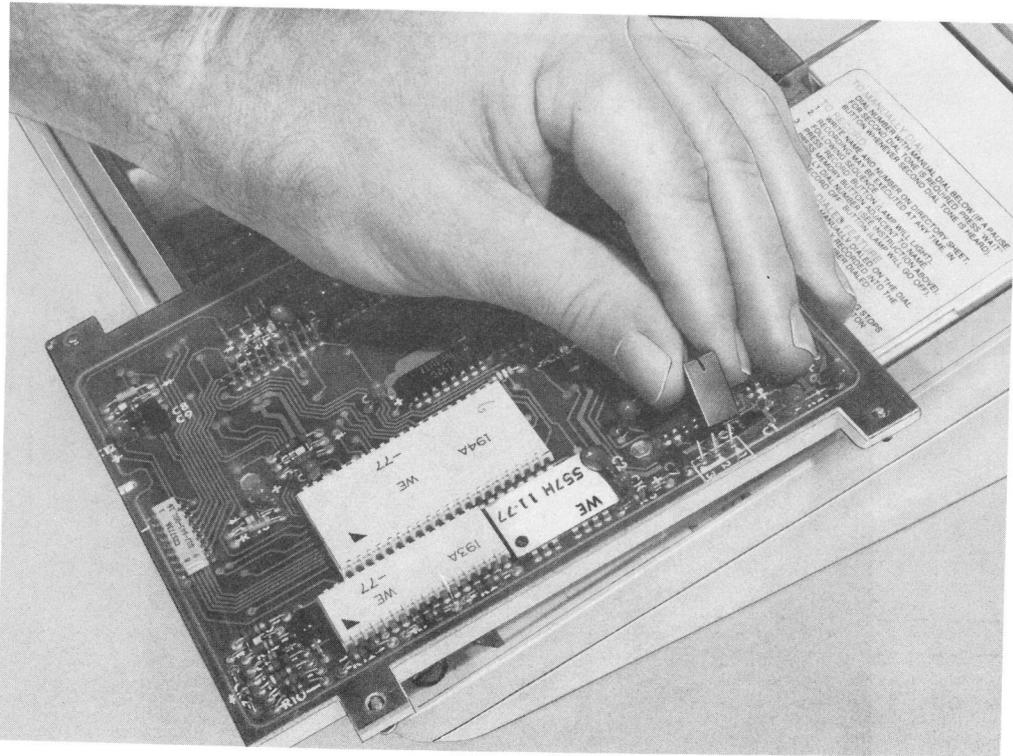

Fig. 6—872A1M Telephone Set Connections of D-180818 Kit of Parts, Record Disable Feature Only
(1) D-180568 (relay kit for speakerphone)
(2) D-180493 (dial tone detector and one-touch calling switch kit)
(3) D-180494 (2/4-wire relay kit)
(4) D-180818 (record disable and dial intermix switch) Fig. 6.